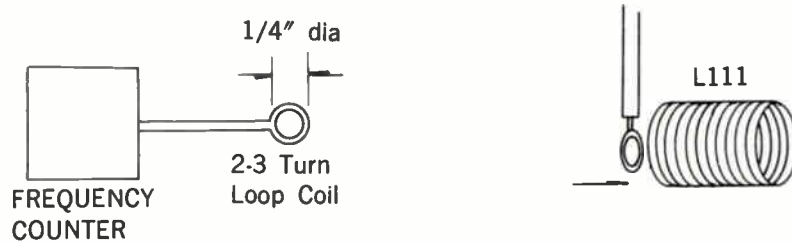

Figure 4. 1st LOCAL OSCILLATOR
STEP 2. Couple the frequency counter thru a pickup coil to oscillator coil L111. Refer to Figure 4.